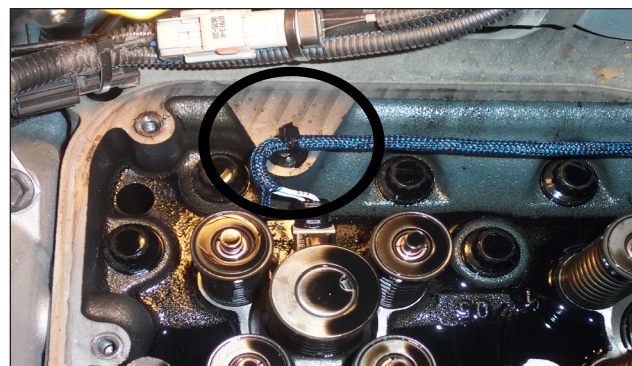

Fig 7
- e. Remove harness retaining clips from threaded holes in head and discard clips. (See Fig. 7)